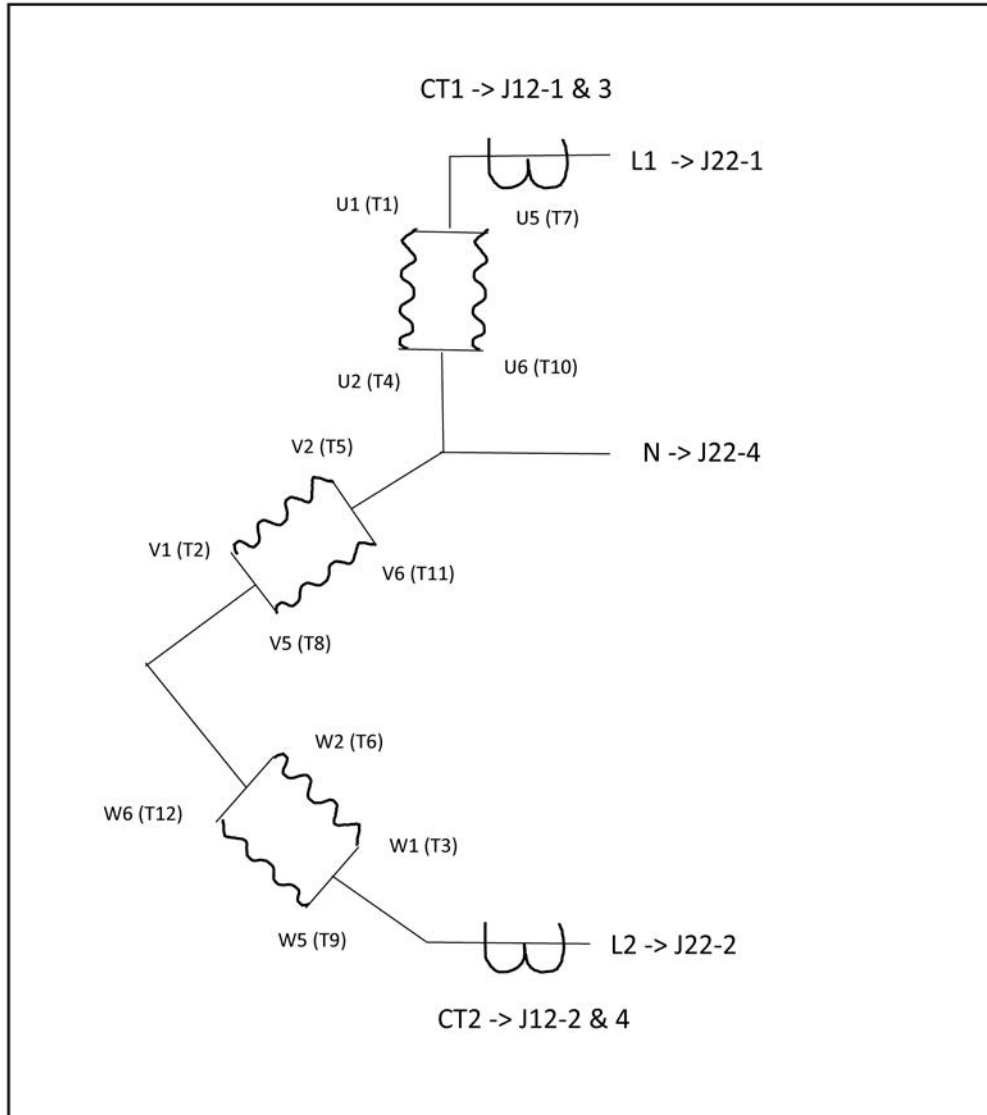

FIGURE 79. ALTERNATOR CONNECTIONS: PARALLEL ZIG ZAG ONE LINE
- Figure 79. Alternator Connections: Parallel Zig Zag One Line 454